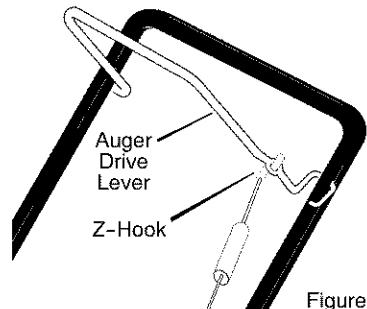

Figure 9
1. Remove the "**Z**" hook from the **auger drive lever** (Figure 9).